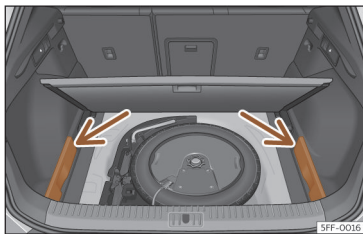

Fig. 177 In the boot: covers for storing the rear shelf.
- Remove the left and right covers >>> **Fig. 177**.